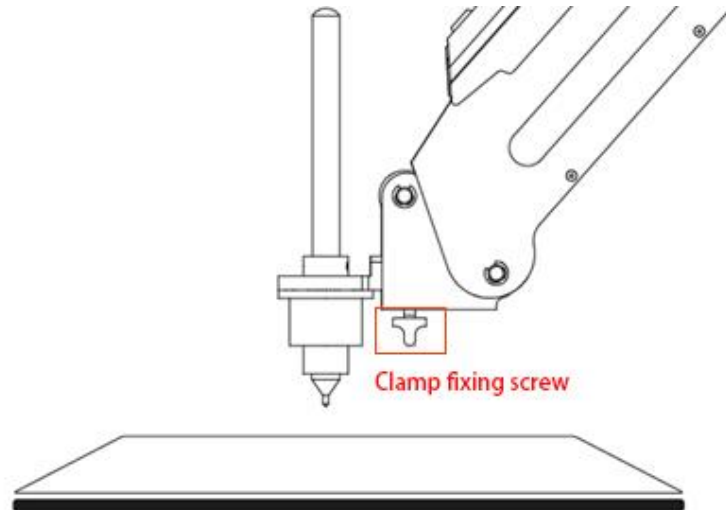

Figure 5.29 Install a writing and drawing kit
Step 2 Fasten the writing and drawing kit to the Dobot Magician's end with clamp fixing screw, as shown in Figure 5.29.